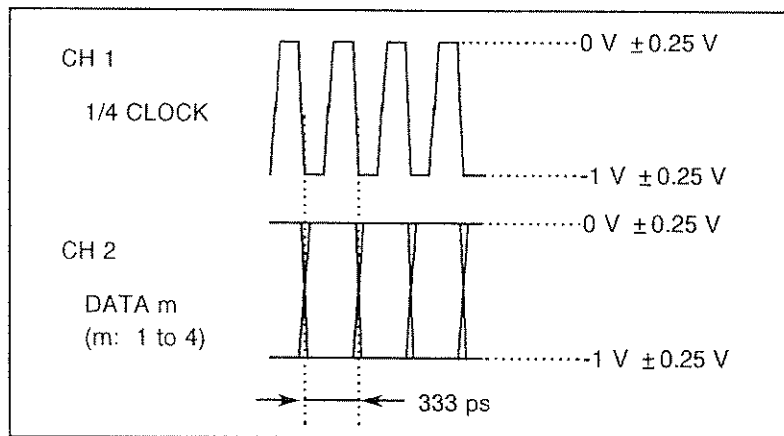

Figure 8-8 1/4 Rate Output Waveform (f = 12000 MHz)
- (8) Confirm that the waveform is a rectangular wave as shown in Figure 8-8.
- (9) Sequentially change the output connected to the oscilloscope CH2 input from the rear panel DATA 1 to DATA 2, to DATA 3, and to DATA 4. Normal if the observed waveform with each output shows a rectangular wave as in Figure 8-8.
- (8) Confirm that the waveform is a rectangular wave as shown in Figure 8-8. (DATA m waveform is viewed slightly darker at LOW level than HIGH level).